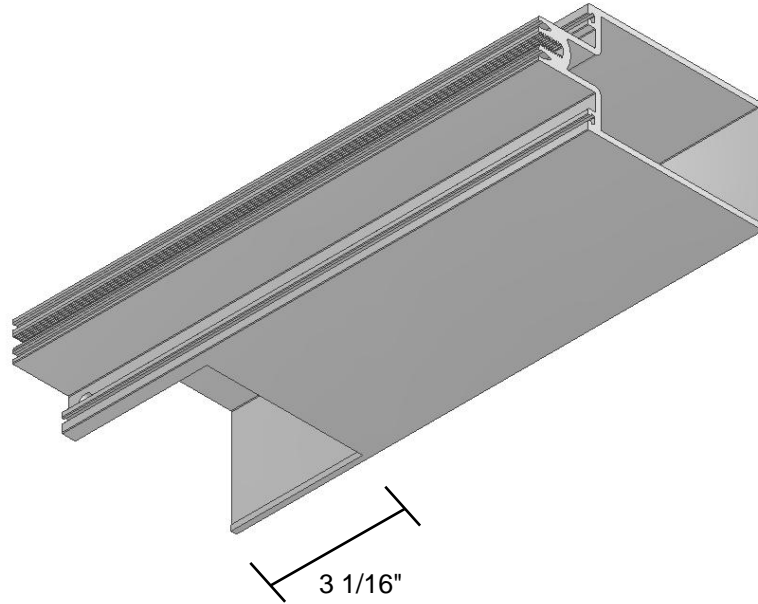

Figure 1: Notch the sills and heads to fit in the anchor clips.
- The notch must not damage the vertical walls of the tube, but should remove the top or bottom of the tube from wall to wall, to a depth of 3 1/16" from the end of the sill or head as shown in Figure 1.